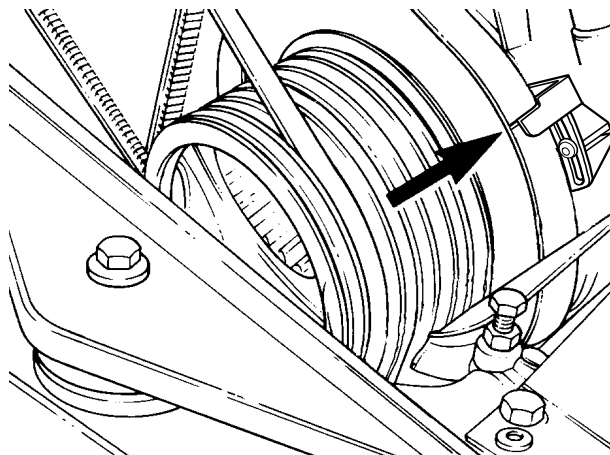

Figure 108 - Timing Mark - Delivery Start
- d. Rotate the engine with the ring spanner (Table 2, Item 10) until the timing mark (arrow) on the vibration damper pulley is aligned with the start of delivery mark (FB) on the timing pointer (Fig 108).
Ensure the timing mark on the vibration damper pulley remains aligned with the start of delivery mark (FB) on the timing pointer during the installation of the fuel injection pump (Fig 108).